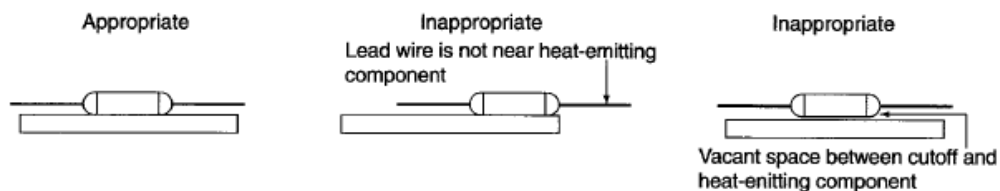

Fig. 1
1. Ensuring that thermal cutoffs' thermosensitive functions are fully exercised requires that equipment be designed so that thermal cutoff lead wires are as long as possible. When using thermal cutoffs in equipment with winding functions such as transformers and motors, install the thermal cutoffs in places with good heat conductance, which will allow them to most directly sense the heat of the windings. Design equipment so that the bodies and both lead wires of thermal cutoffs are evenly heated (see Fig. 1)